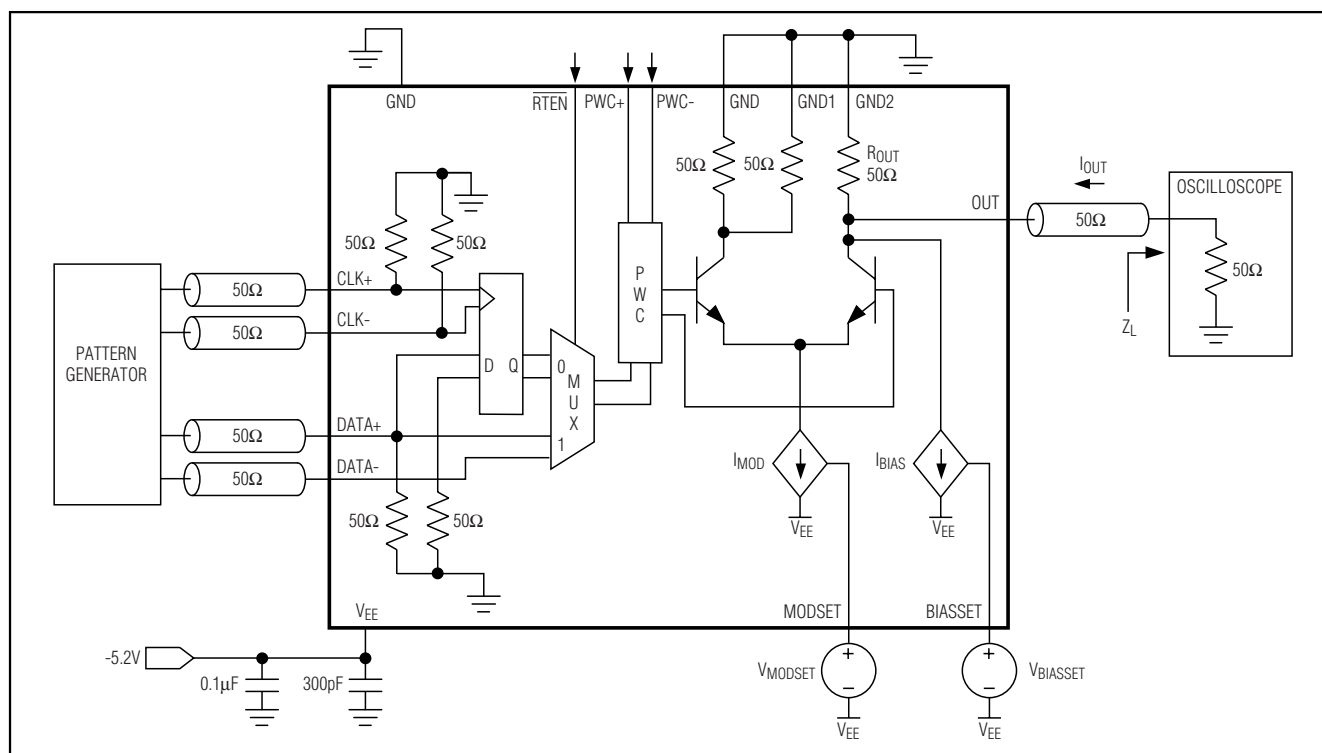

Figure 4. AC-Characterization Circuit
**Note 6:** Guaranteed by design and characterization using the circuit shown in Figure 4.